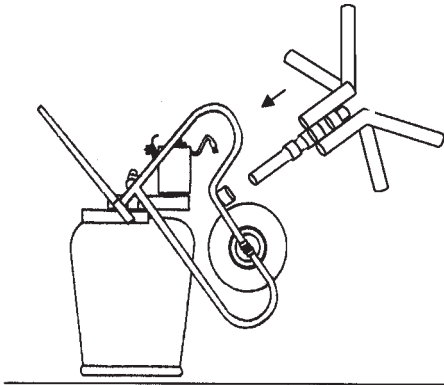

Figure 4 - Insert Pedestal Stand Assembly through Pivot Mount Plate
3. Insert pivot tube of pedestal stand assembly through pivot mount and tighten thumbscrew. (Figure 4)